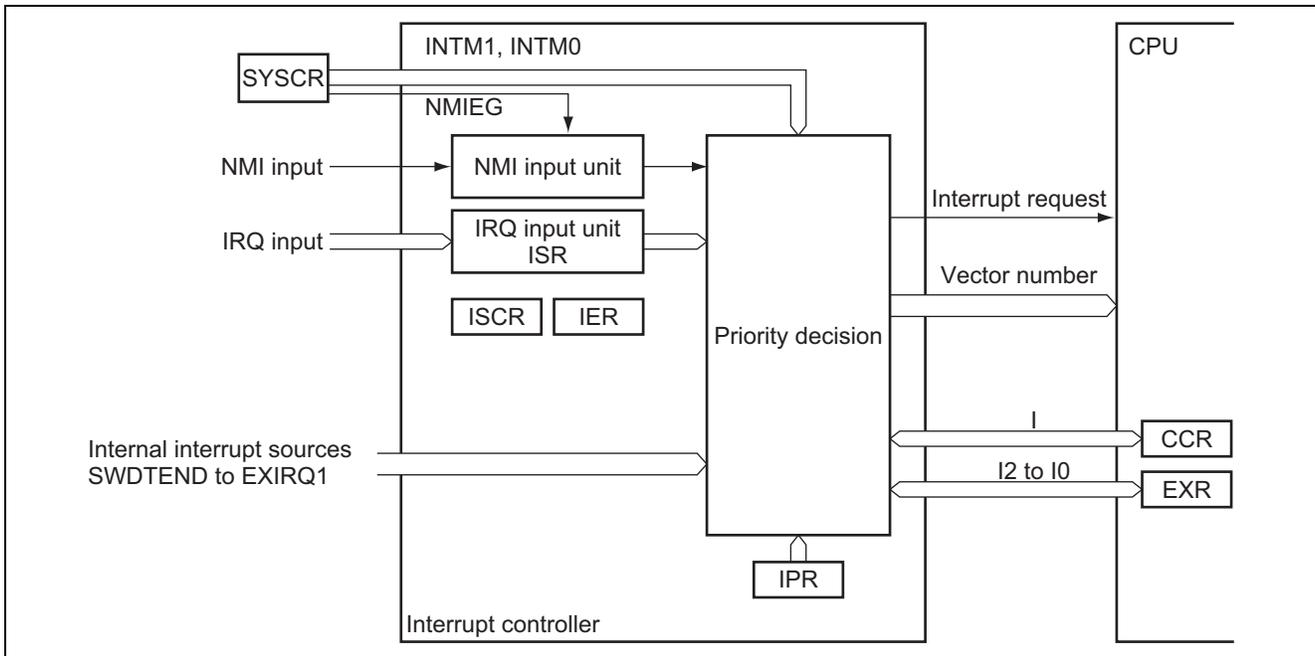

Figure 2 Block Diagram of Interrupt Controller
1. Figure 2 shows a block diagram of the interrupt controller, and the following is the description of the interrupt controller registers used in the sample task: